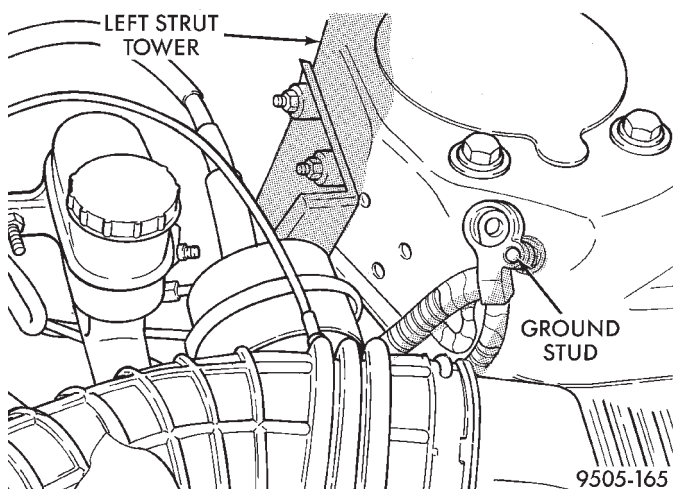

**Fig. 117 Correctly Isolated Remote Ground Cable**
(2) Correctly isolate remote ground by installing the ground cable insulator on the strut tower ground stud as shown (Fig. 117)